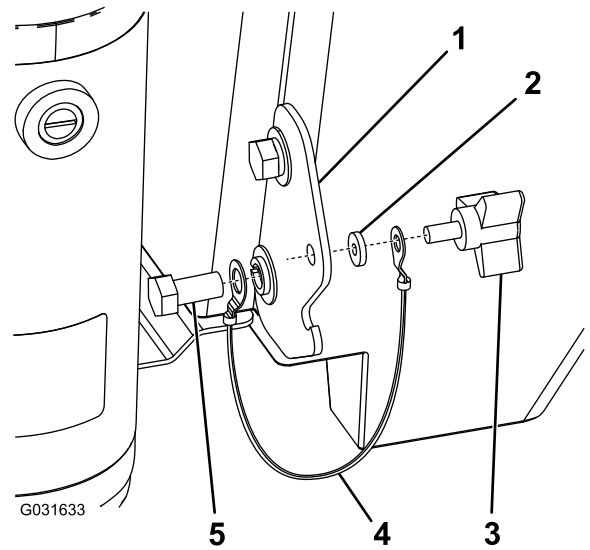

Figure 9
1. Attach the tether to the lower bolt on each of the hopper latches (Figure 9).
2. Attach the open end of the tether to the thumbscrew using a rubber washer (Figure 9).